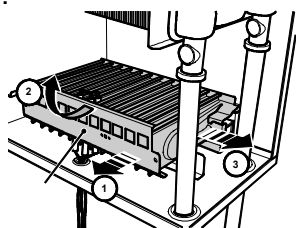

Figure 9.3
- 8) Remove the burner moving it to the left, rotating it upward and then pulling it outside the combustion chamber (follow the arrows on figure 9.3).